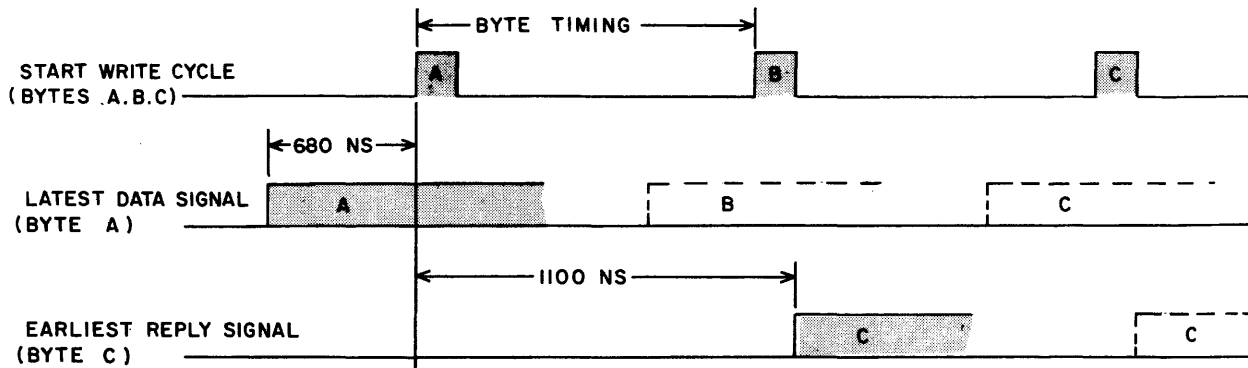

Figure A-5. Write Timing
- 2) The earliest a Reply can occur for the data signal of a given byte is 1.1 microseconds following the start of the Write cycle of the preceding byte plus one (i. e., the earliest a Reply can occur for Byte C is 1.1 microseconds after the start of the Write cycle for Byte A). Refer to Figure A-5.